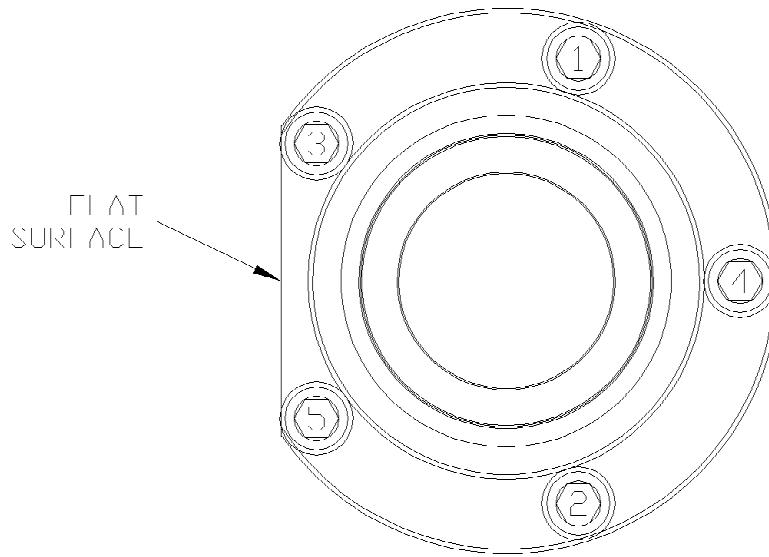

**figure A-11**
16. Thoroughly clean the bearing caps (8) (fig. A-11) with a mild solvent and lubricate all seal grooves with STP oil treatment. Place the bearing caps (8) on the table (mounting surface down) and install the wiper ring (19) in the outside groove using a rubber mallet or small press. *(Avoid using tools that may damage seals or scratch bearing cap or bearing surfaces.)* Turn the bearing cap (8) over. Collapse the pinion seal (20) and carefully work it into the groove. Use fingers to carefully press the seal completely into the groove as shown in figure A-11. ***Be careful not to score or scratch the sealing surface during the installation.*** Install the bearing cap seal (15) and thrust washer (32) into their respective grooves on the bearing cap mounting surface as shown in figure A-11.
17. Coat the bearing cap seal area and pinion seal area shown in figure A-11 lightly with STP Oil Treatment.